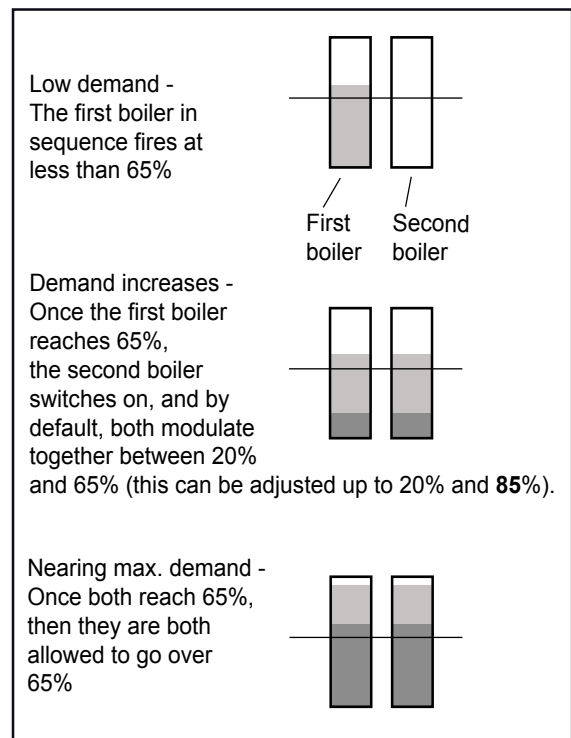

Figure 40. Lead Lag Operation, 2 boilers.
- If the heating demand increases so that the firing rate of that first boiler rises to your boiler configurations Base Load Value (see **Figure 40** or **Figure 42**), the next boiler in the sequence will start up and begin firing at 20 to 35% fan speed (depending on your configuration). After this, the entire configuration of boilers will modulate up or down together, in reaction to the changes in demand.